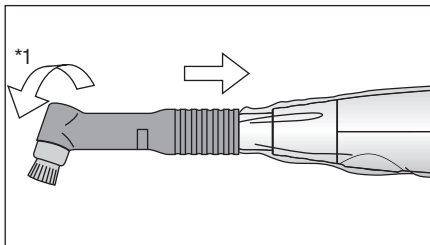

Fig. 3
- 3) Insert the disposable handpiece firmly and check that the connection is secure (Fig. 3, 4).
*1 When attaching/detaching the disposable handpiece, turn it in the direction of arrow in Fig. 3.